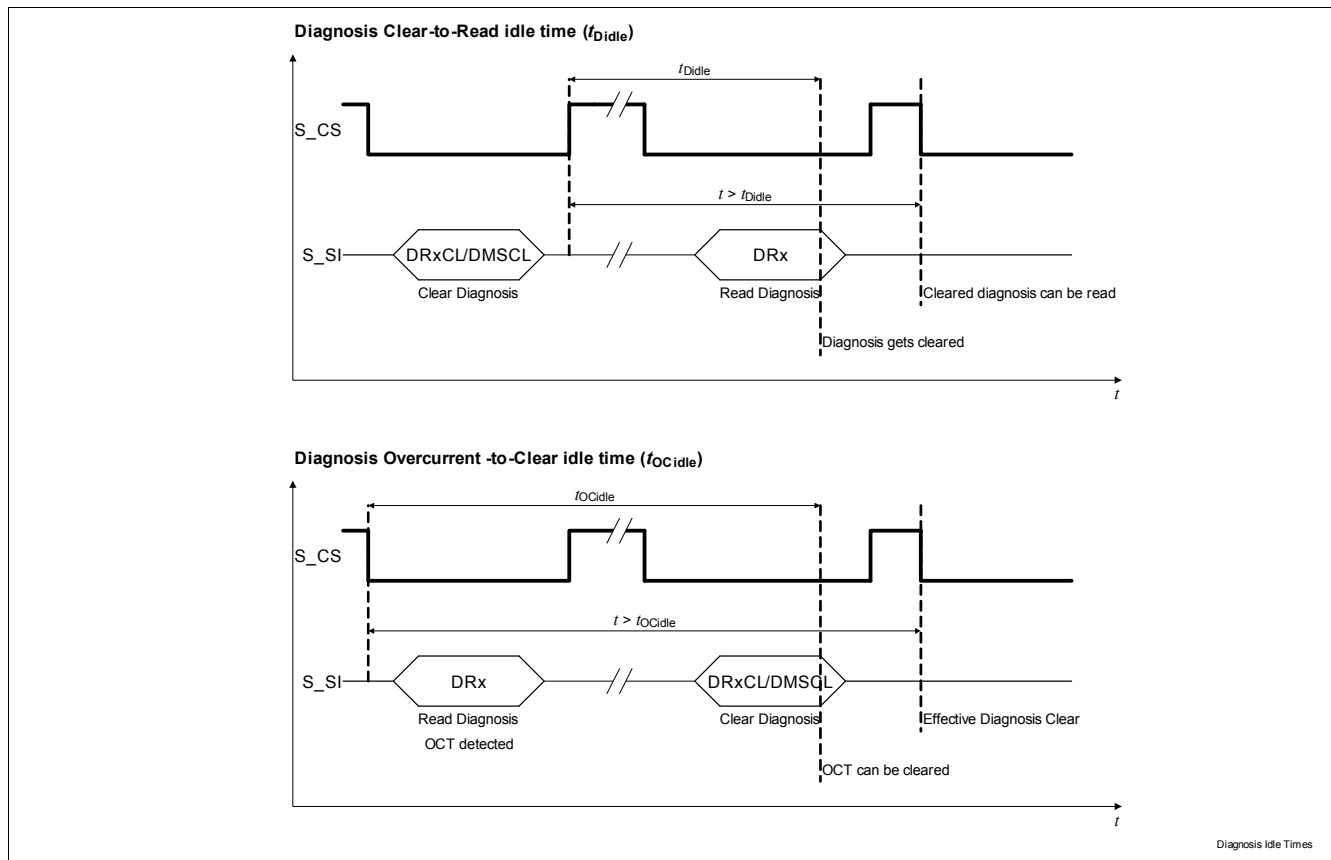

Figure 39 Diagnosis idle times
When issuing a Diagnosis Register Clear command (DRxCL or DMSCL), the idle time  $t_{\text{DIdle}}$  needs to elapse, from the CS low-to-high transition of the clear command, before the register content is effectively cleared (Figure 39); This time has to be taken into account when trying to read the Diagnosis register content after a clear, see Chapter 11.3 for  $t_{\text{DIdle}}$  definition.
After an overcurrent entry is stored in the diagnosis register (OC), the idle time  $t_{\text{OCIdle}}$  needs to elapse before a clear command can effectively clear the entry; if trying to clear the Diagnosis register after an OCT entry is read (Figure 39), this time has to be taken into account starting from the CS high-to-low transition of the previous read command, see (Chapter 11.3) for  $t_{\text{OCIdle}}$  definition.